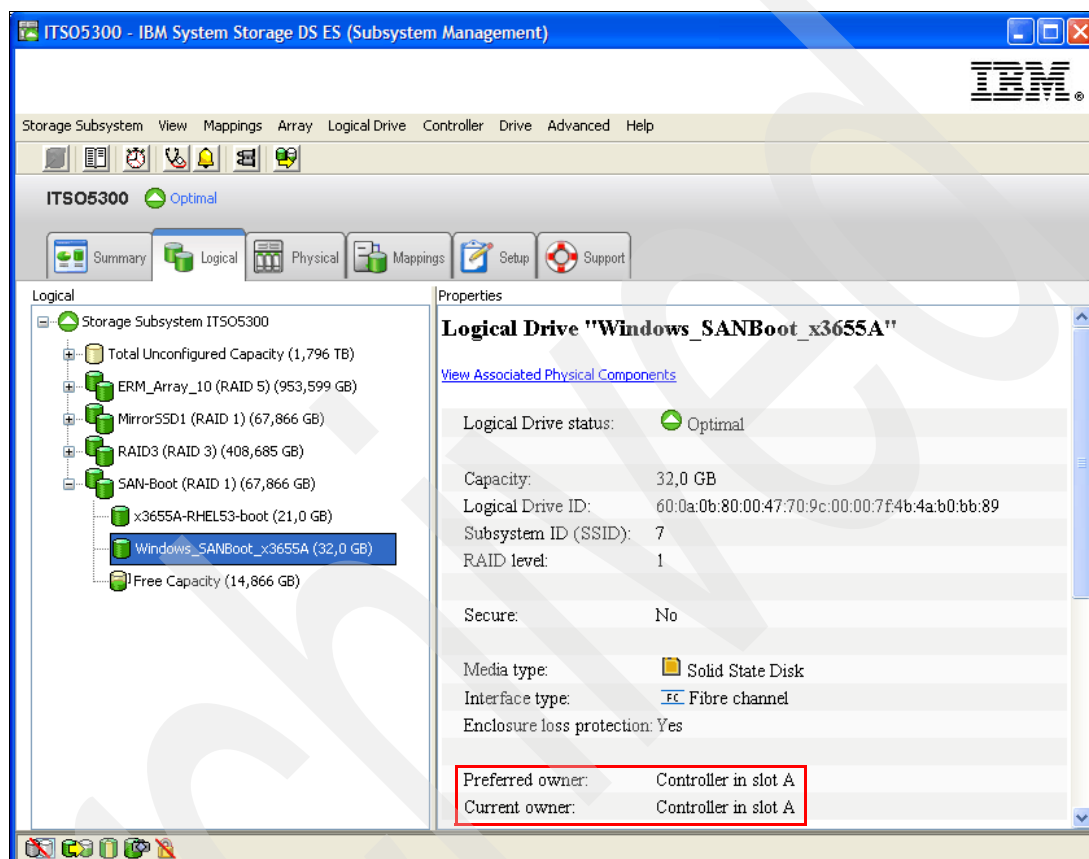

Figure 5-77 Check controller ownership
1. From the Storage Manager Subsystem Management window (Logical view), check which controller currently has the drive ownership of the boot disk for the server. In optimal condition, the preferred and current controller must be the same (Figure 5-77).